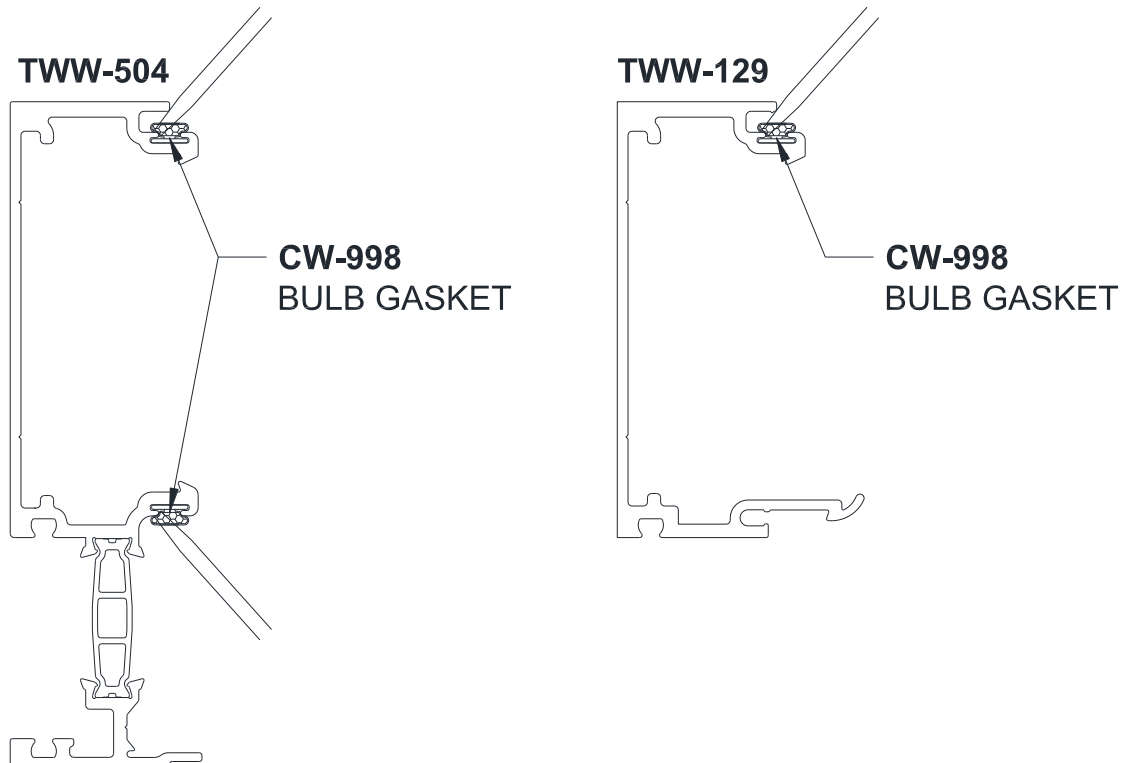

Figure 28: Gasket Installation into Male-Half of Split Mullions
- 12.1.3 Insert **CW-998** Bulb Gasket into male half of split mullion and stake in place at each end as shown in *Figure 28*.